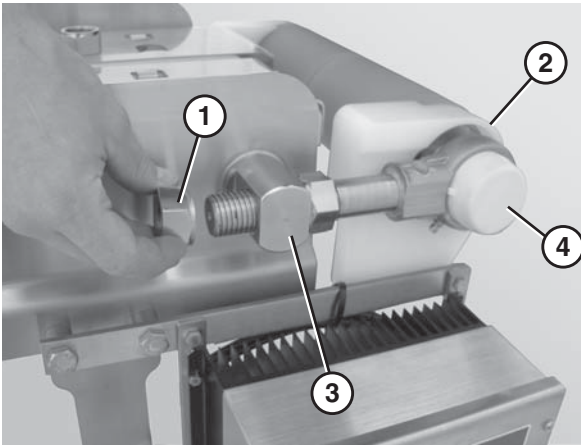

**Figure 69**
15. Lower the end of the drive shaft spindle (Figure 69, item 1) until it is clear of the side plate (Figure 69, item 2) and remove it.